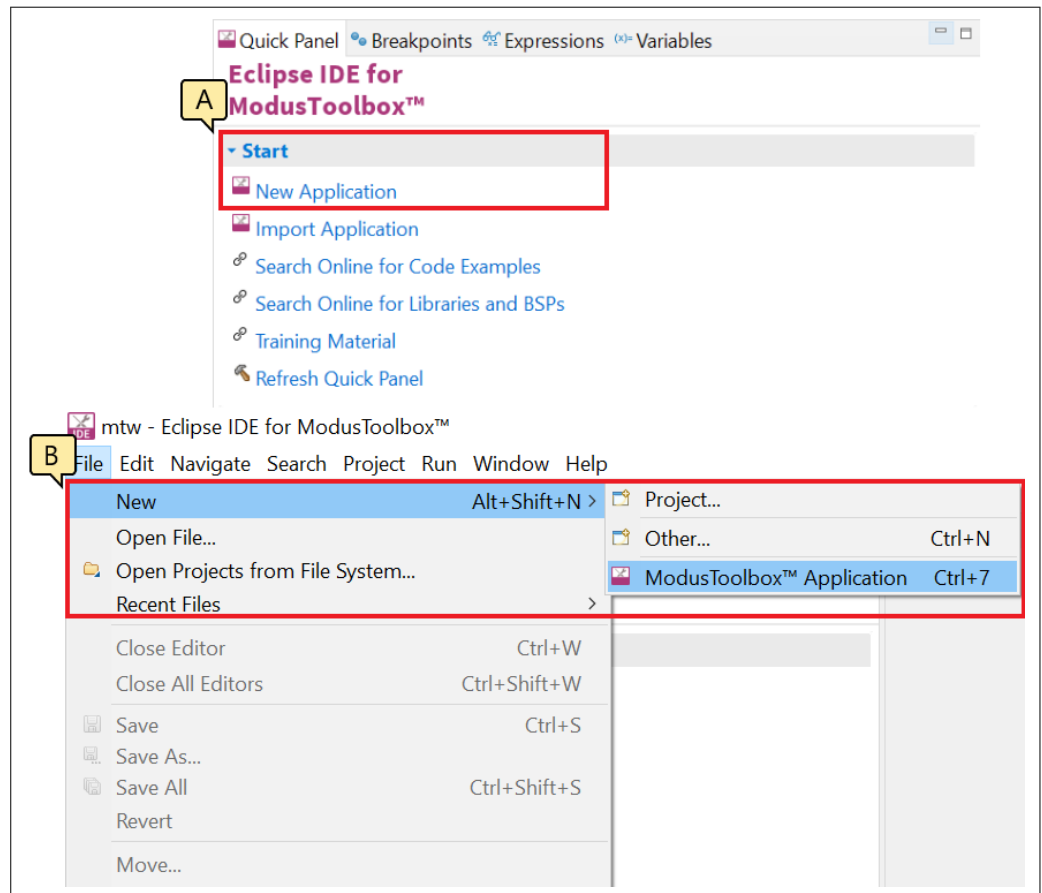

Figure 12 Create a new ModusToolbox™ application
- b. Alternatively, you can choose **File > New > ModusToolbox™ Application**, as Figure 12 shows. The Project Creator opens.